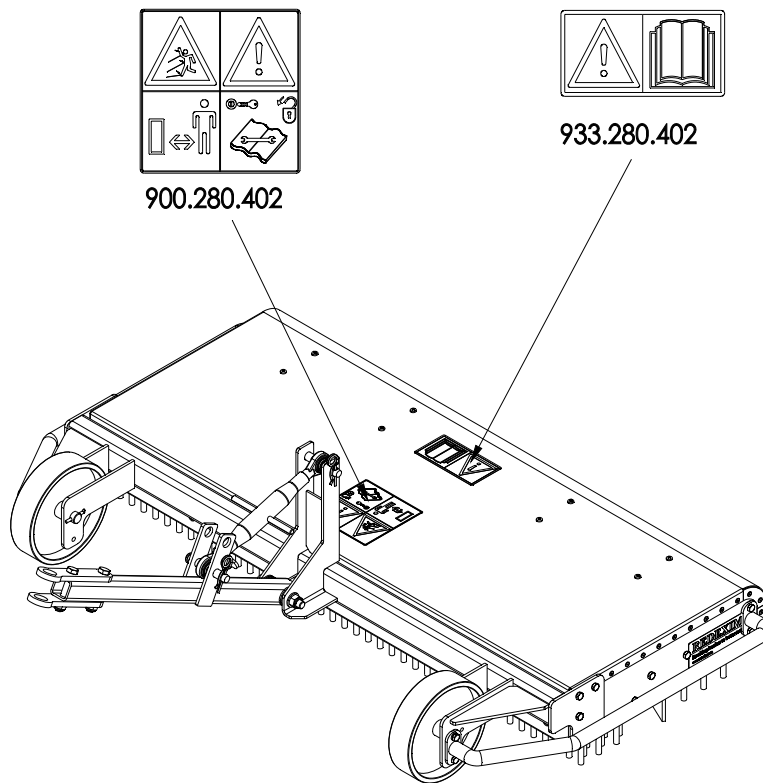

Fig. 5
There are safety stickers (Fig. 2, 3 and 4) on both sides of the Court-Top (Fig. 5) with an identical meaning. These safety stickers must be clearly visible and legible at all times and replaced when damaged.
(7) Locations of safety stickers. (Fig. 5)